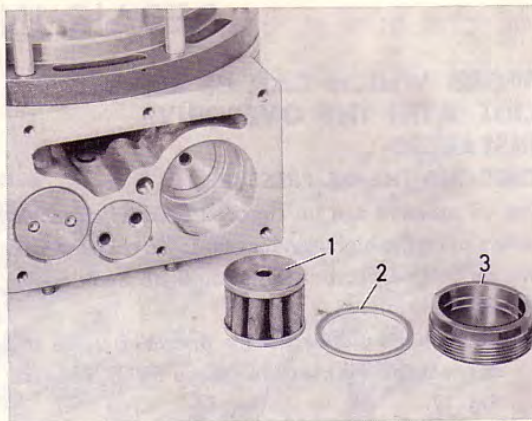

Fig. 21. Pressure filter
2. Release the plug and take out the packing and pressure filter, see Fig. 21.